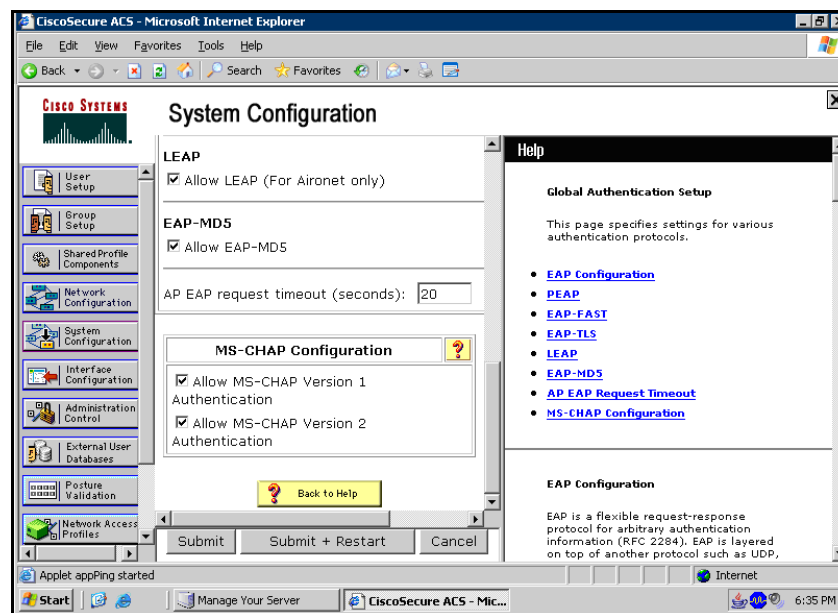

FIG. 61 EAP-LEAP sample Cisco System Security page
- Refer to FIG. 61 for an example of how a typical EAP-LEAP system configuration page should appear.